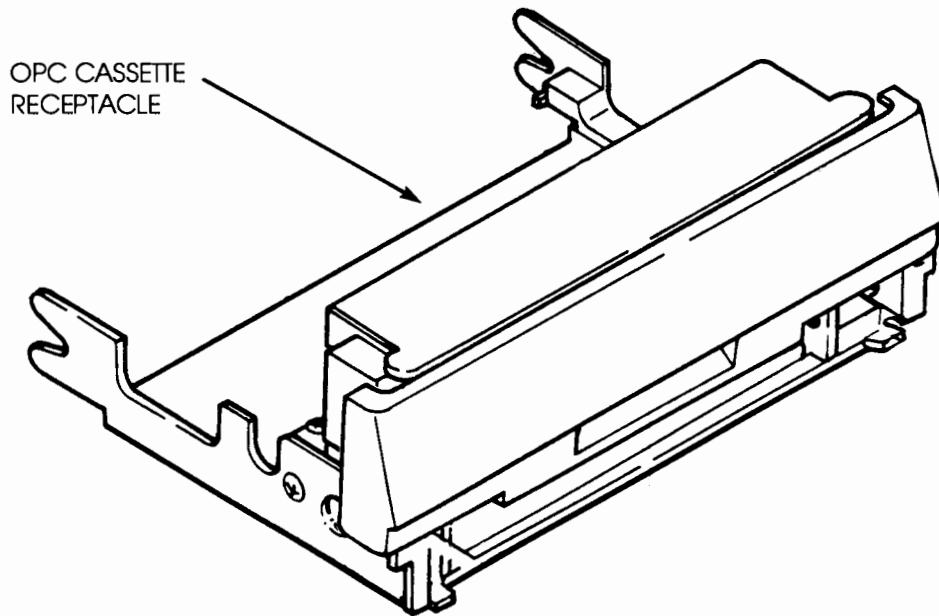

Figure 4-21. Cleaning OPC Cassette Receptacle
- f. Set the OPC cassette down on a non-abrasive surface and clean the OPC cassette receptacle with a soft dry cloth to remove any toner or particles (see figure 4-21).